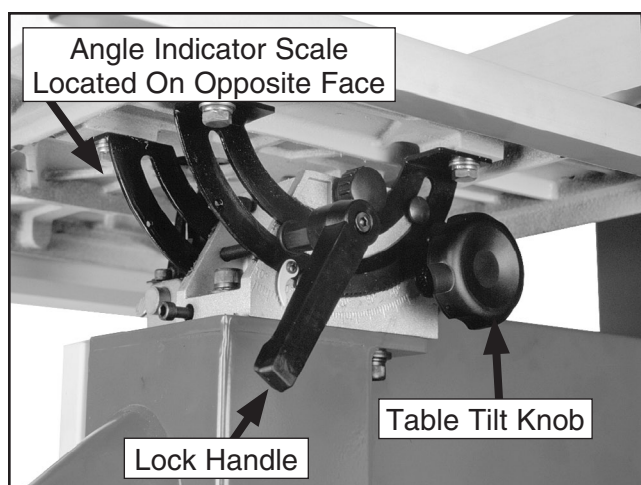

Figure 42. Table tilt controls.
2. Loosen the lock handle on the table trunnion shown in **Figure 42**.